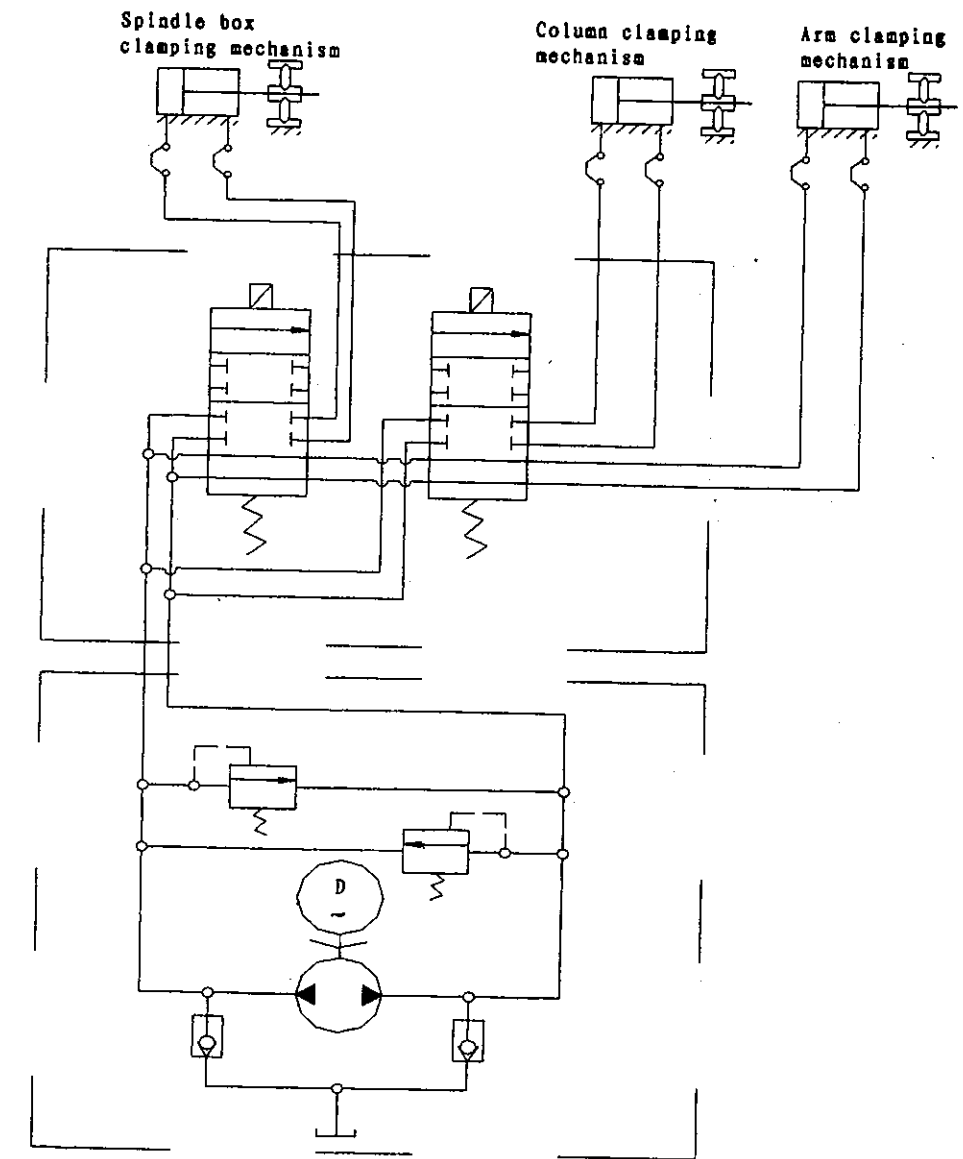

Fig. 8.1 Clamping Mechanism Hydraulic Schematic Diagram
8.2 The Clamping Mechanism hydraulic System (Fig. 8.1)